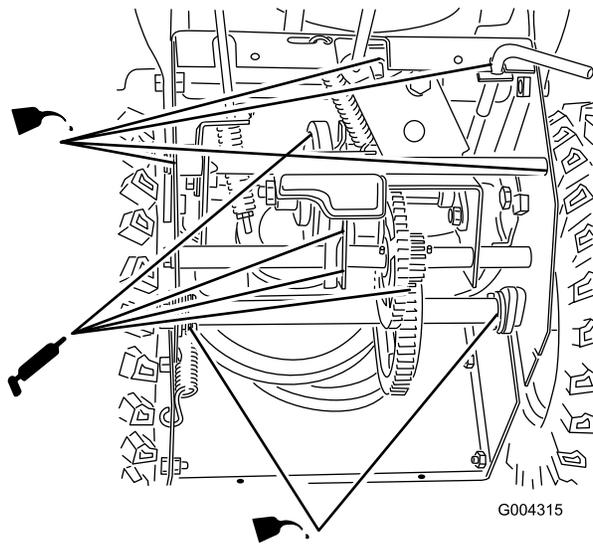

Figure 28
4. Lightly lubricate the snowthrower with light oil as shown in Figure 28.
6. Grease the snowthrower as shown in Figure 28.